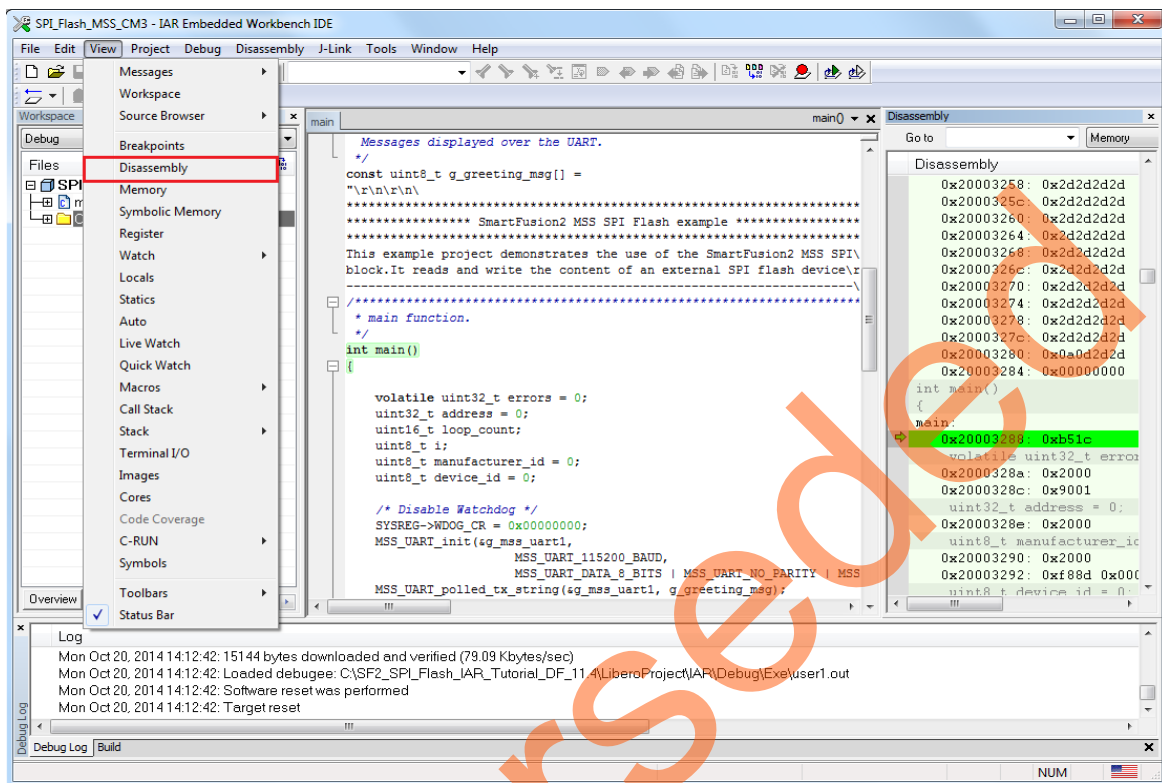

Figure 46 • Assembly Level Instructions
7. Click **View > Disassembly** to view the values of variables in the source code as shown in Figure 46.